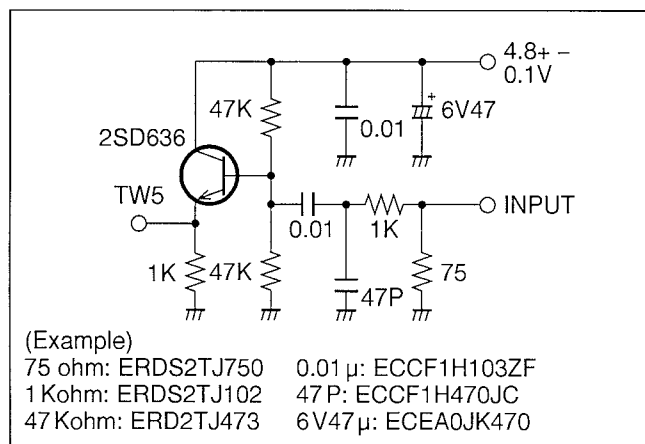

Fig. E16
- Note: 1. Connect the Service Circuit as shown in Fig. E16.